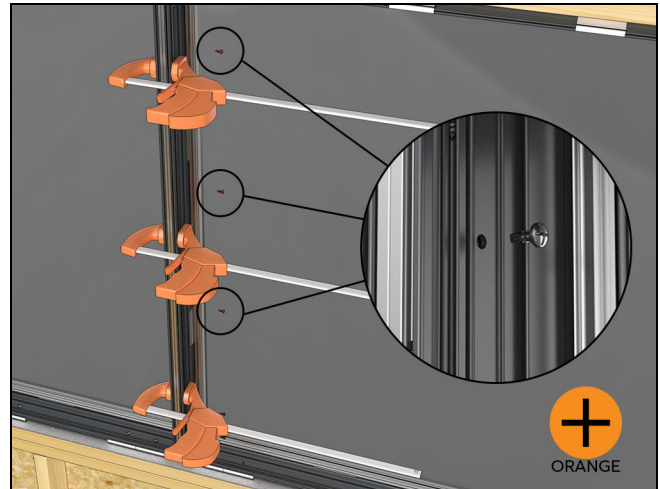

Figure 7
2. Fasten at each pre-drilled hole location with the #8 x 7/16" Phillips head self drilling screws provided. See Figure 7.